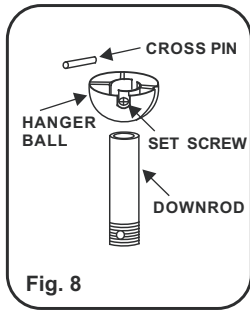

Fig. 8
Step 3. Remove hanger ball from downrod assembly by loosening set screw, removing the cross pin, and sliding ball off rod.(Fig 8)